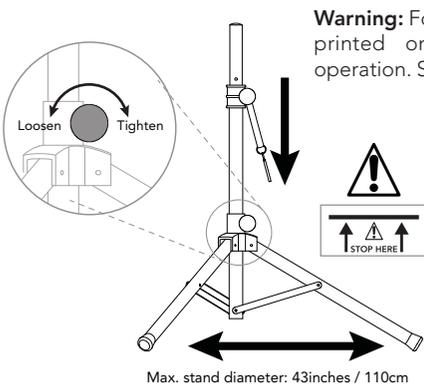

Figure 1.
2. Loosen the lower of the two large thumbscrews and spread the tripod legs. **Follow the height warnings printed on the stand for safe operation** (Figure 1). Setting the height outside this area is forbidden. **Tighten the thumbscrew before placing the SA220 on the stand.**